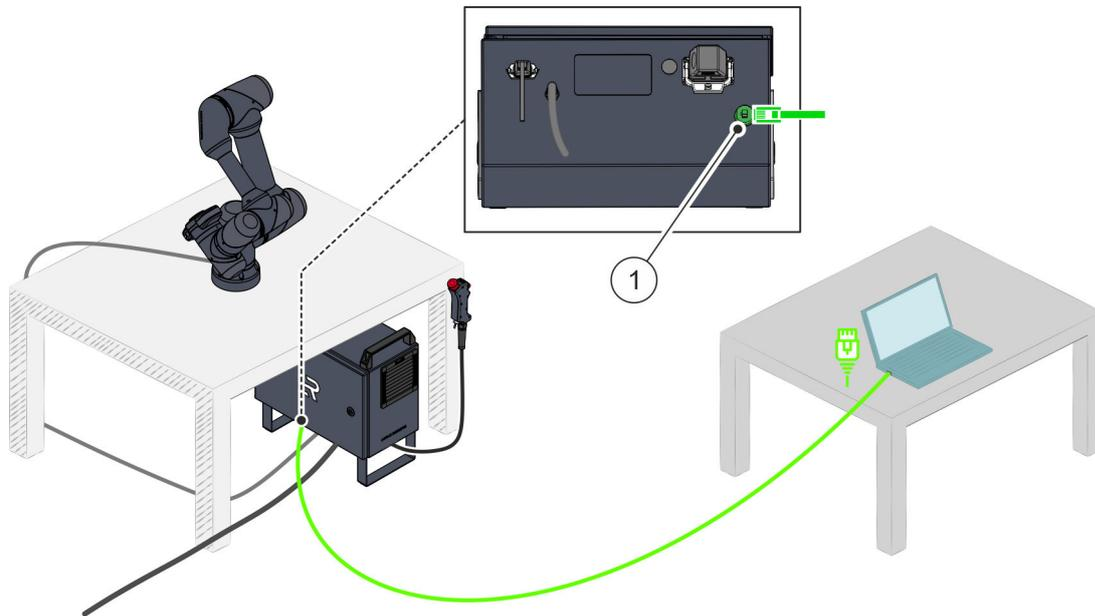

Fig. 56 Connecting to a laptop
Fig. 56 shows an example of how to connect the laptop.
Connect one end of the Ethernet cable to the network port on the laptop Fig. 56.
Plug the other end of the Ethernet cable into the associated port on the underside of the robot controller Fig. 56/①.